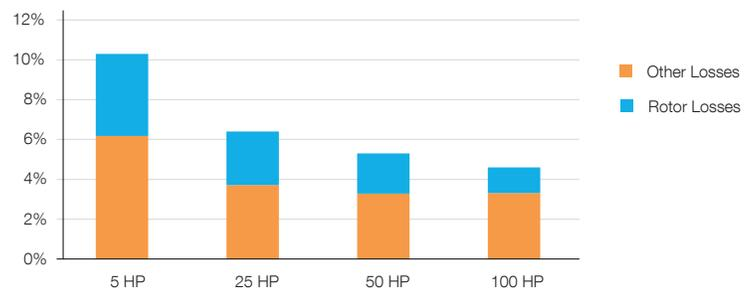
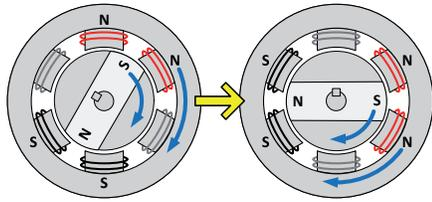

Figure 4: Rotor Losses in an AC Induction Motors
Figure 5: As the stator's magnetic field rotates, the magnets in the ECM's rotor follow it.
Although AC Induction motors are more efficient than they were in the past, there is always interest in increasing the efficiency of equipment. *Figure 4* shows the losses in the rotor of the AC Induction Motor compared to its total losses. Rotor losses are often the second largest losses in the motor (the stator losses are generally larger), so other motor designs have been developed in order to remove this source of losses.
- Because the ECM doesn't drive current through the rotor, the rotor losses shown in *Figure 4* will not occur. This is evident in the full load efficiency comparison for all motors in *Figure 5*.